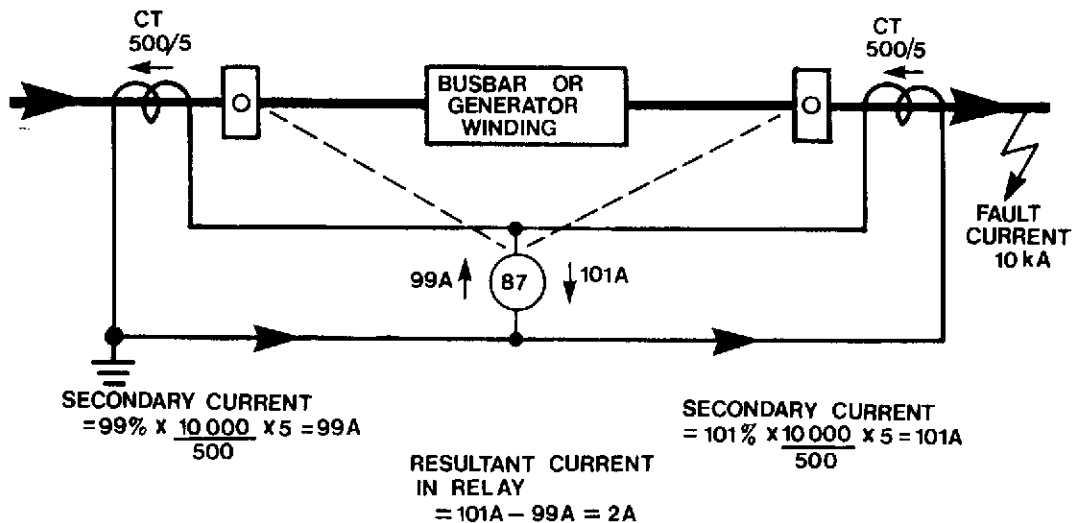
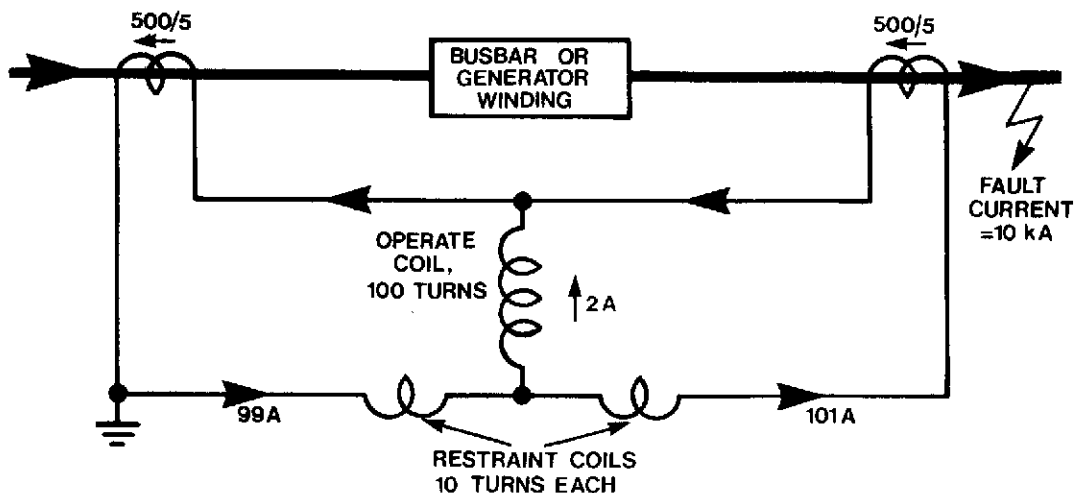
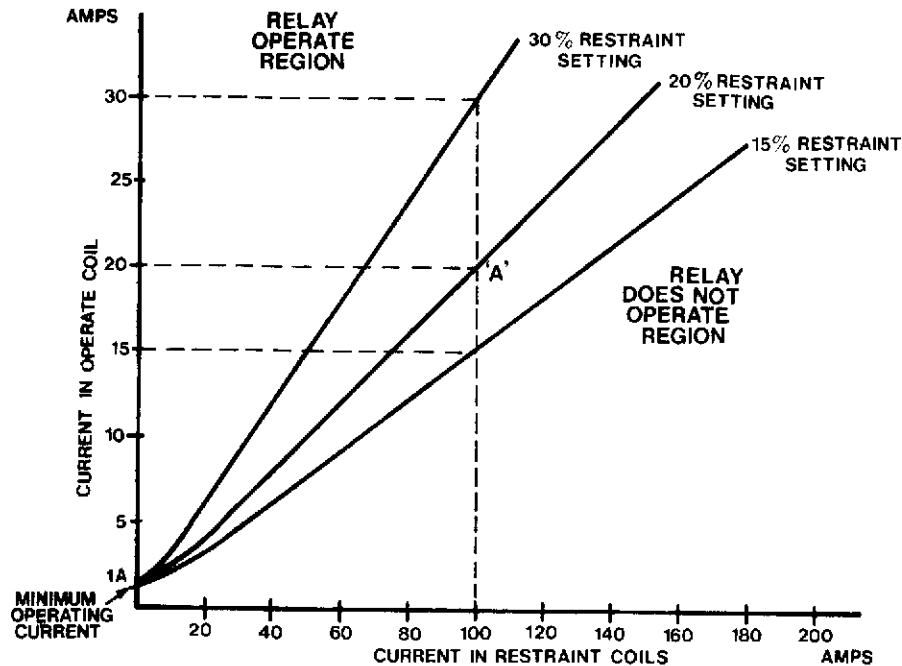

Figure 4: Current transformer errors causing differential relay to mal-operate on an out of zone fault.
Figure 5(a): Differential relay with restraint coils. Relay does not mal-function when an out of zone fault occurs.
Figure 6: Typical operating characteristics of a percentage differential relay.
- (a) The CT's feeding the relays, when an out-of-zone fault occurs, may not give exactly balanced outputs. Any unbalance in the output from the CT's may cause the relay to malfunction. The example given in Figure 4 shows the situation which can occur when two CT's each of 500/5 ratio, and each having a 1% error, are subjected to a through or out of zone fault current of 10 kA. The relay, set at 20% of 5A or 1A, will have a current of 2A flowing in it and it will mal-operate causing the breakers to trip incorrectly for the out of zone fault.
Figure 5(a) shows how the restraint and operating coils are connected. A typical relay is considered, which has 100 turns on its operate coil and 10 turns on each of its restraint coils. Under the same fault conditions as shown in Figure 4, the restraint coils produce $(99 \times 10) + (101 \times 10) = 2000$ ampere-turns. The operate coil produces $2 \times 100 = 200$ ampere-turns. Clearly, the restraint coils produce a greater magnetic force and the relay does not operate. For the relay to operate, the ampere-turns of the operating coil must exceed the ampere-turns of the restraining coil.
To overcome these problems, sufficient (but not too much) restraint has to be provided and this is done by selecting the correct tap. Figure 6 shows, for various percentage tap settings of the restraint coils, curves of through or out of zone fault current versus levels of current to operate the relay.
Taking the example shown in Figure 4, if the relay is set at 20%, see Figure 6, and 100 A flows in each of the restraint coils each having 10 turns, $100 \times 10 \times 2 = 2000$ ampere turns of **restraint force** are produced.
Before the relay can operate, a current greater than 20 A must flow through the 100 turn operating coil producing more than $20 \times 100 = 2000$ ampere turns of **operating force**. See point A in Figure 6 on 20% restraint setting, (also called 20% slope).